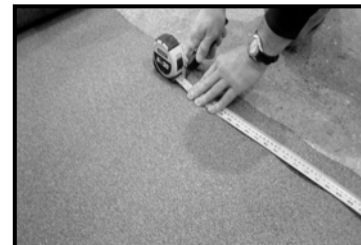

FIG 15
2. Measure the length of the roof (fig 14) and add 200 mm to that length . This length is used to cut all the strips from the rolls of felt. (fig 15)